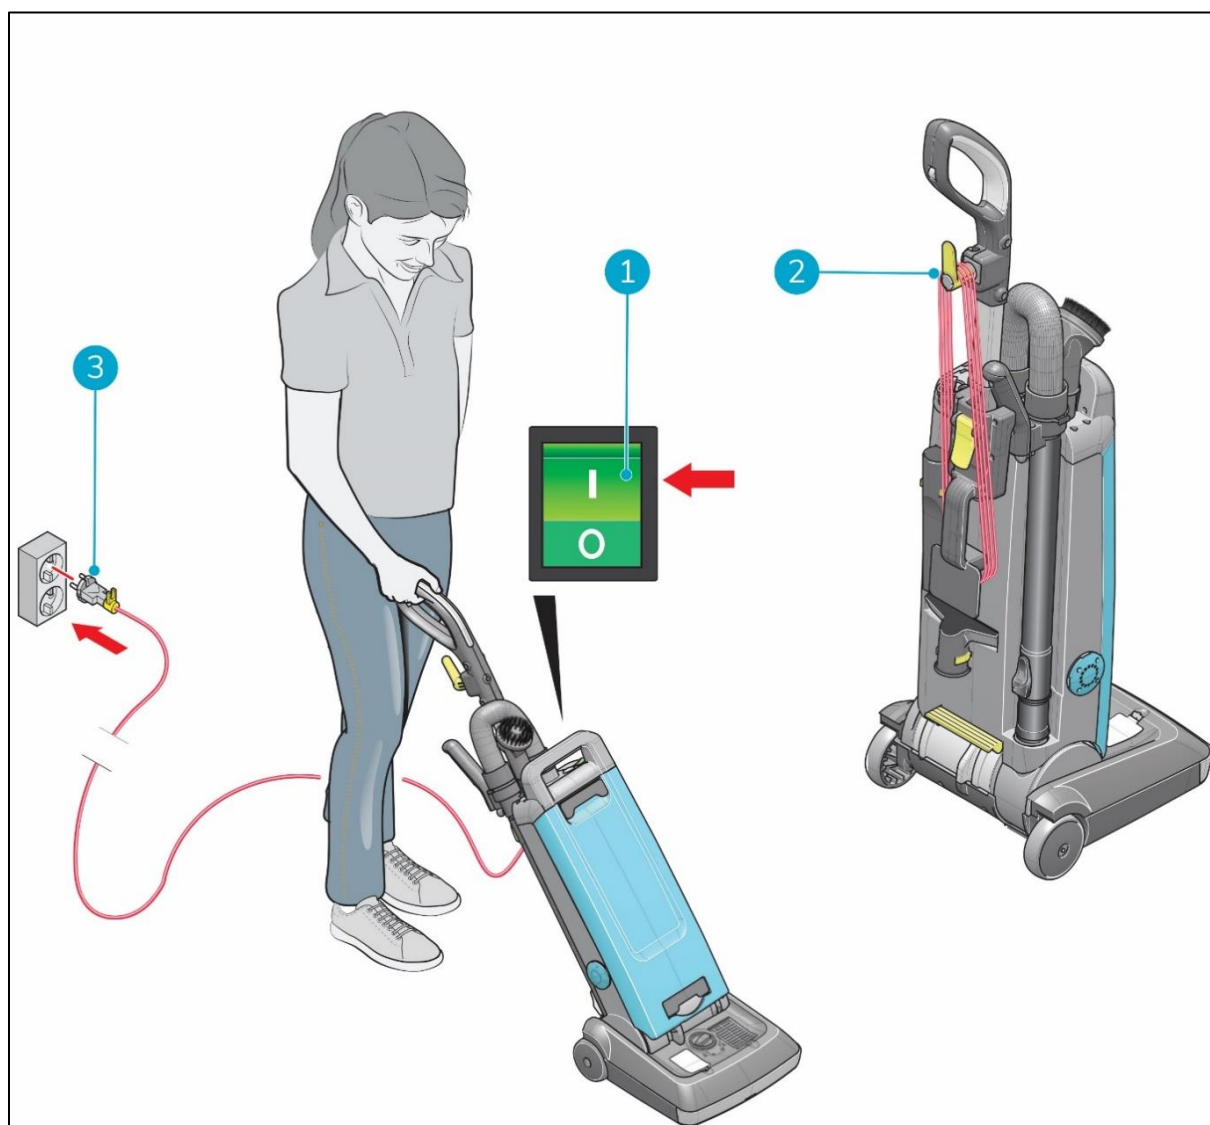

Figure 19
1. Fully unwind the main power cable (Figure 19, pos 2).
2. Put the main power cable plug in the wall socket (Figure 19, pos 3).
3. Press the ON/OFF switch (Figure 19, pos 1) at the top of the main body to turn on the i-vac 30UR.